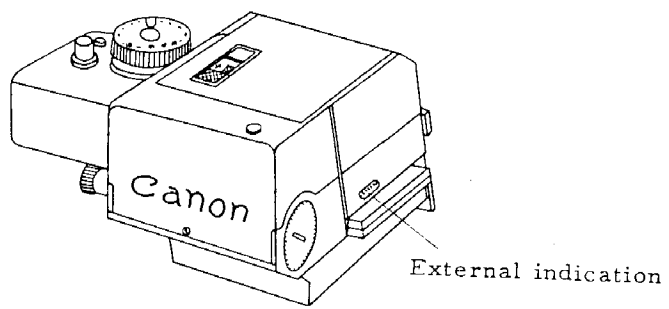

Fig. 8
1. External indication of lamp lighting Fig. 8.